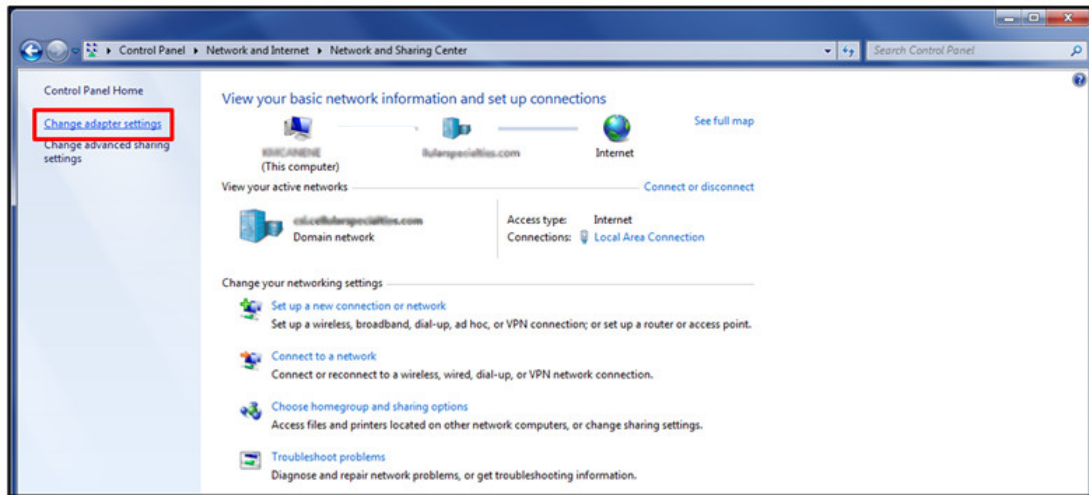

Figure 4-16: Change Adapter Settings
- On the left side, click **Change adapter settings** as shown in Figure 4-16.